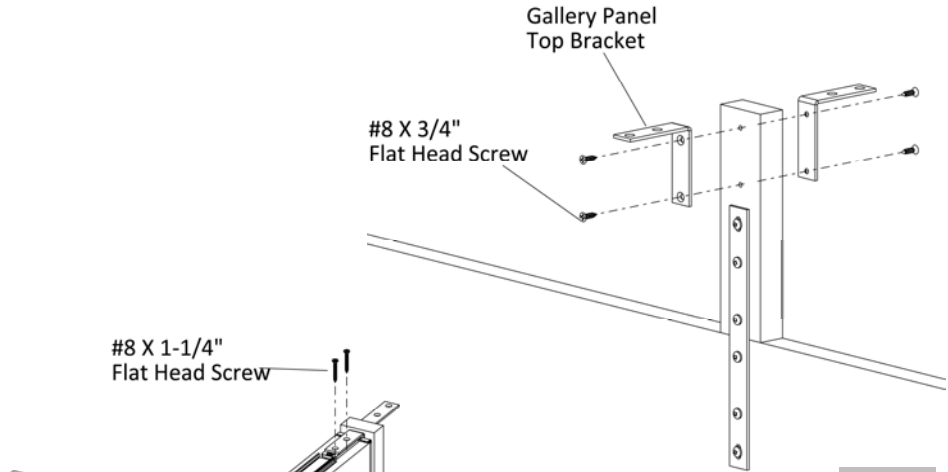

Figure 2
- Securely fasten the gallery panel top brackets into the pre-drilled holes of gallery panel filler using #8 X 3/4" Flat Head Screws, (Figure 2).